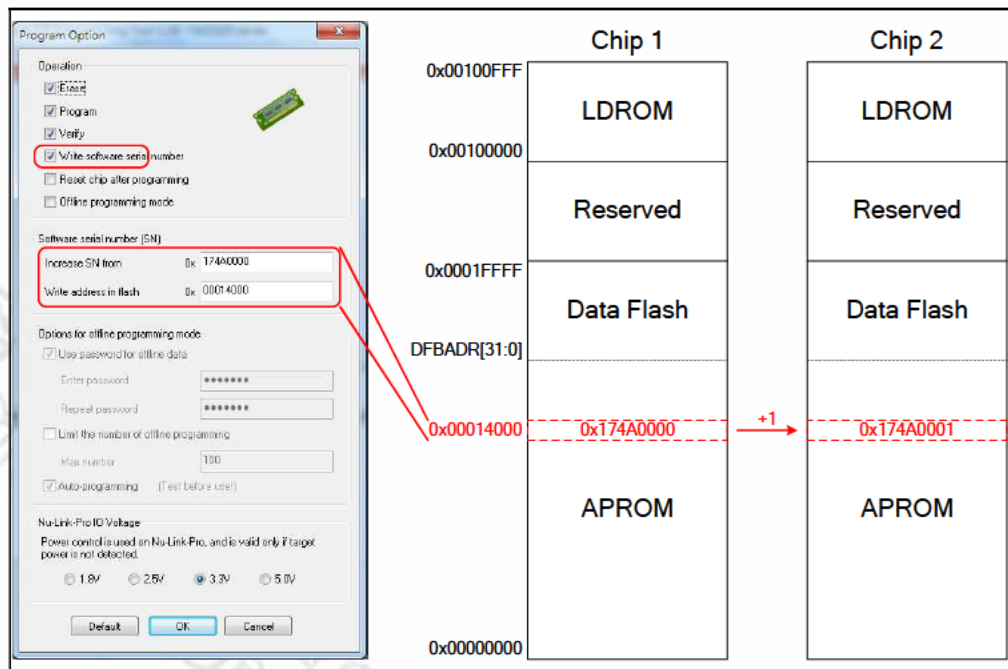

Figure 3-7 Software Serial Number (SN) Settings
3.2.3 Software Serial Number (SN)
The Software Serial Number (SN) function provided by the ICP Tool enables users to specify the value in the “Increase SN from” and “Write address in flash” fields for the target chip during online/offline programming. Take the NUC140VE3CN chip for example, the user can specify a set of “Increased Serial Number (SN)” and “Write Address” to any of APROM, LDROM, and Data Flash, and the written Serial Number (SN) will be automatically incremented (as shown in Figure 3-7).